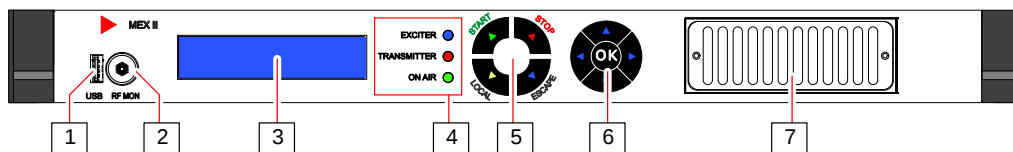

Fig. 3.2 – MEX Exciter front panel
| Tab. 3.2 | – MEX II Exciter front panel legend (ref. Fig. 3.2) .....       | 49 |
| Fig. 3.2  | – MEX Exciter front panel .....                      | 49 |
- Tab. 3.2 refers to Fig. 3.2 which is the call out of “MEX Exciter” front panel
Tab. 3.2 – MEX II Exciter front panel legend (ref. Fig. 3.2)
Tab. 3.2 – MEX // Exciter front panel legend (ref. Fig. 3.2)
| 1                                                                        | – Close the breakers on front panel of Mains Distribution unit (see para 3.2, Fig. 3.2). | <p>These LEDs light up on front panels of the following units:</p> <p>Exciter “1” (on-air):</p> <ul style="list-style-type: none"> <li>● EXCITER (blue) blinks for about 30 s then goes off;</li> </ul> <p>Exciter “2”:</p> <ul style="list-style-type: none"> <li>● EXCITER (blue) blinks for about 30 s then goes off;</li> </ul> <p>Displays on Exciters light-up and the exciters start the software loading ('loading...' operation).</p> <p>CCU (Central Control Unit)</p> <ul style="list-style-type: none"> <li>● STATUS (blue) blinks for about 30 s then remains lit;</li> <li>● LOCAL (yellow) on relevant push button</li> <li>● STOP (red) on relevant push button</li> </ul> <p>See note (1).</p> <p>RF Amp. modules</p> <ul style="list-style-type: none"> <li>● (LED blinking green) modules supplied</li> </ul> |